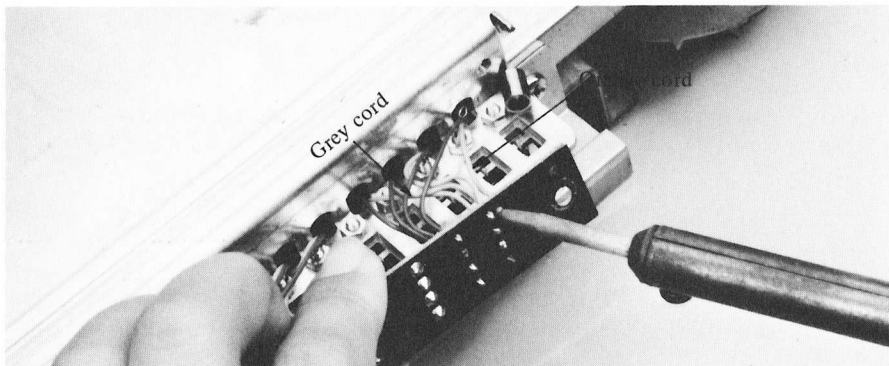

Fig. 91
- B. Disconnect the lead wires of the solenoid from the solenoid P.C.B. by unsoldering. (Fig. 91)